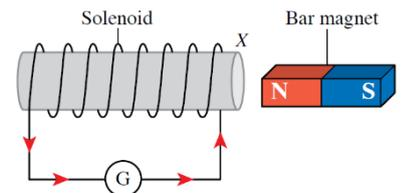
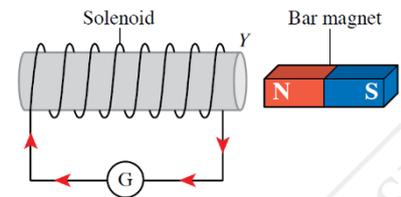

Figure 2
Figure 3
3. Figures 2 and 3 show the induced currents produced when there is relative motion between a bar magnet and a solenoid.
(b) Based on the direction of the current given in Figures 2 and 3, state the magnetic polarities at ends X and Y of the solenoid.
(c) State the direction of motion of the bar magnet in Figure 2 and Figure 3. 🧠
(d) Suggest two ways to increase the magnitude of the induced current in Figure 3.